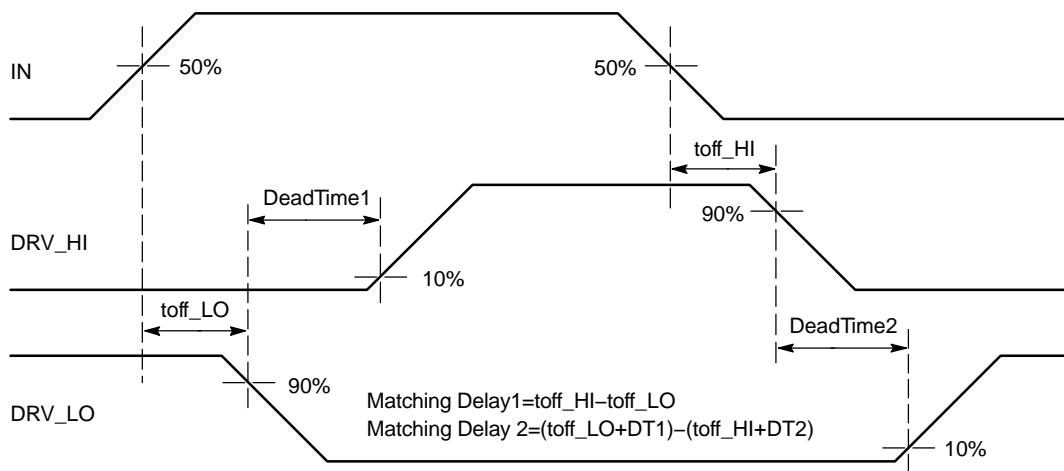

Figure 6. Matching Propagation Delay Definition
5. Timing diagram definition see: Figure 4, Figure 5 and Figure 6.